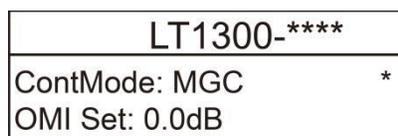
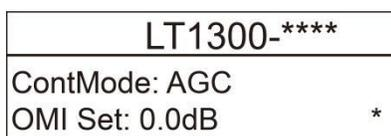

Figure 7.2.10
Figure 7.2.11
At this time, use the "▼" two buttons to reset the working mode (AGC/MGC). After setting, press the ↵ key to save the settings. As shown in Figure 7.2.10, the working mode of the device enters the set state.
(2) Modulation level setting: In the Figure 7.2.10 interface, press the ▼ key, the "\*" number will follow down, and the menu 3-2 on the same level as the "\*" will enter the pre-set state. As shown in Figure 7.2.11: At this time, press the ↵ key, the underline appears under the current value, in this interface with the "▼", set the modulation level value, increase or decrease the step is 0.5dB, adjustment range (75 ~100)dB. Press the ↵ key after the device is finished to save the settings. The device enters the set state immediately.